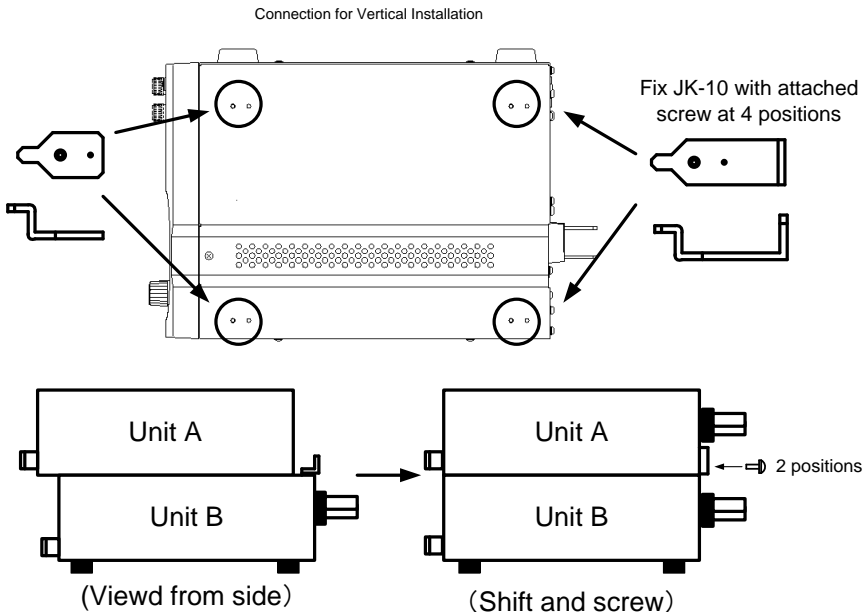

Fig.6-6 Connection for Vertical Installation
- (3) Place the units as shown in Fig. 6-6 below so that the projections of the JK-10 on the unit B are inserted in the holes in the unit A, from which the rubber shoes are removed above.
- (4) Shift the unit A, and fix the rear panel to the brackets of the joint kit (JK-10) firmly with the screw with washer supplied with the kit.